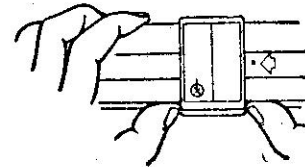

Fig. 7
- (1) Indicator is moved with tip of thumb.
- (2) For instance, to set the indicator to some graduation from right to left direction, indicator is roughly moved with tip of right thumb and then finely adjusted with the aid of left thumb as shown in Fig. 7 when the hairline approaches the graduation you wish to set.
- (3) Gradually set the hairline on the point at the last step. It should be so practised that the indicator is set on the point at single movement, without moving back and forth.